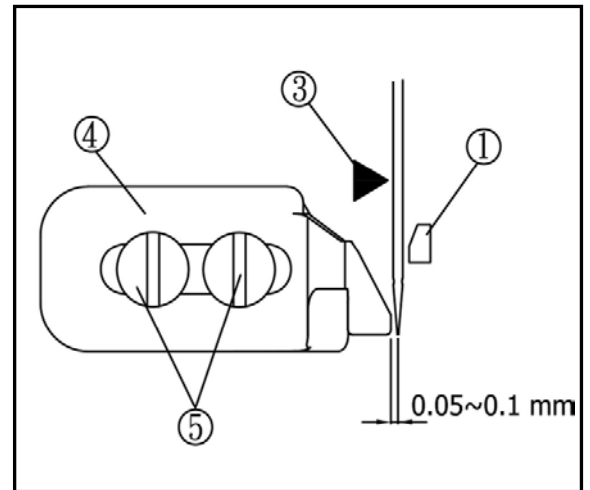

Fig. 55
Open the looper cover and loosen the screw ⑤ to adjust it. Check the needle does not swing to the right when the looper moves from the left to the right while rotating the handwheel. (Fig.55)